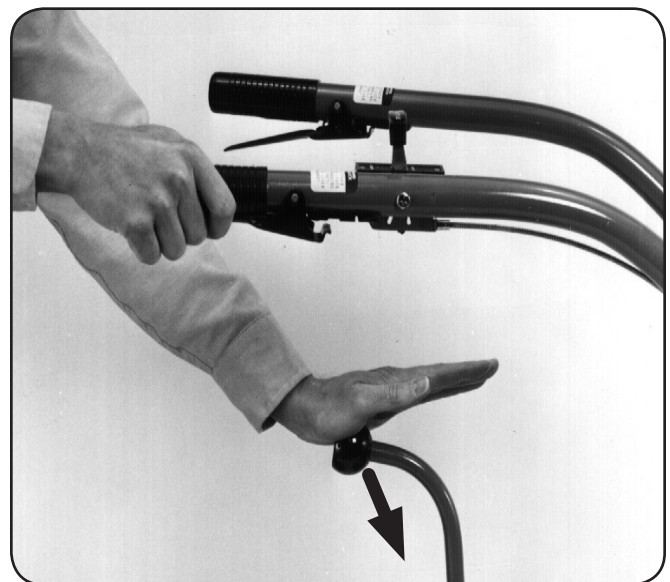

Figure 4-2
5. To move the tiller forward and engage the tines, squeeze and hold either Forward Interlock Lever against the handlebar grip (See Fig. 4-2), then move the Wheels/Tines/PTO Drive Lever down to FORWARD position.